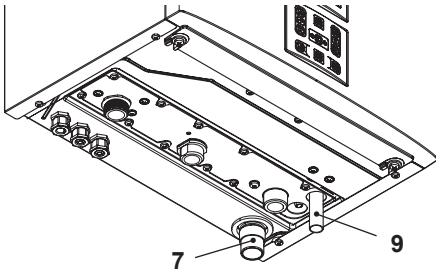

Fig. 6.4
- Connect the pipe 9 (Fig. 6.4) from the pressure relief valve to the safety discharge pipework.
- Fit the condensate drain 7 (Fig. 6.4) in to the drainage pipework.